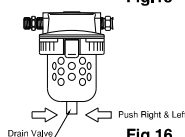

Fig.16
② Moisture in the Air Filter (Fig.16)